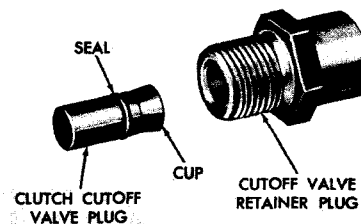

Fig. 6-8. Clutch cutoff valve plug and associated components (hydraulic type)—later model
(2) Remove the clutch cutoff valve plug from the retainer plug. Remove the cup and seal from the valve plug (fig. 6-8).
(3) Complete the disassembly by following instructions in para 6-2a(5) through (11), above.
c. Assembly (items 17 thru 22, B, foldout 15)
(1) Follow instructions in para 6-2c(1) through (9), above.
(2) Install seal ring 19, into the groove on plug 18. Install cup 20 onto the projection on plug 18. Install the valve plug, with cup and seal, into retainer plug 22. Fig. 6-8 shows the proper relation of parts.